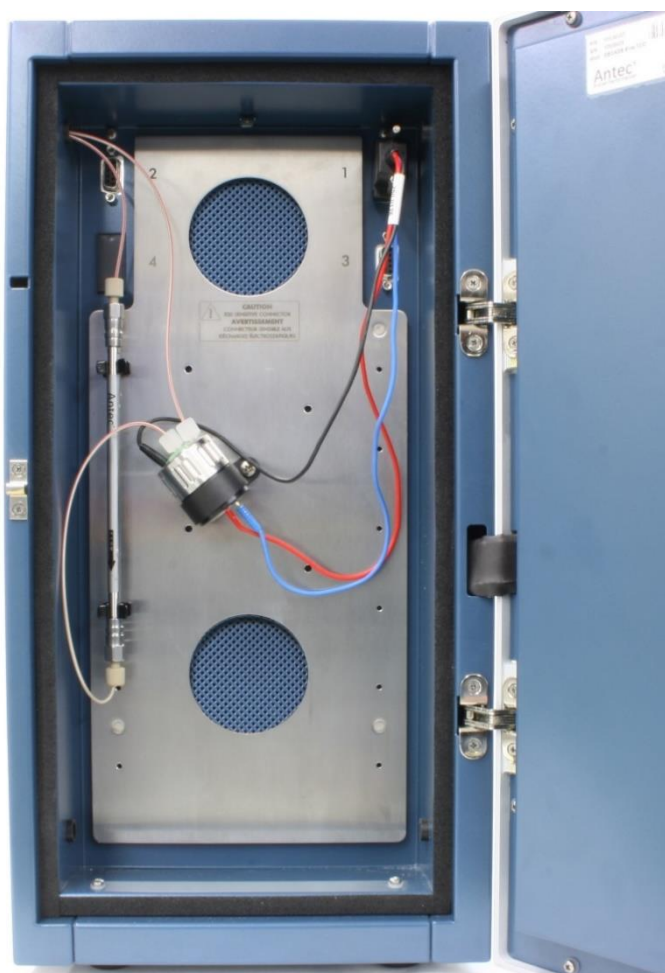

Fig. 4. Installation of flow cell and column in the DECADE Elite.
1. The installation of the flow cell and column is shown in Fig. 4.